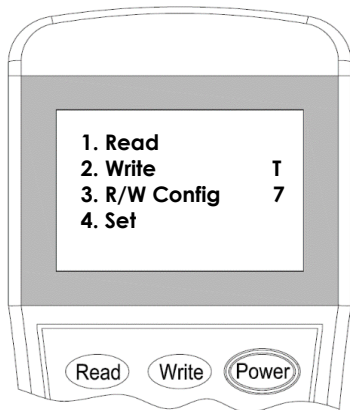

Figure 3
2. Switch-on the programmer, then press button **“Write”** or number **“2”** to enter Write Address mode (Figure 3).